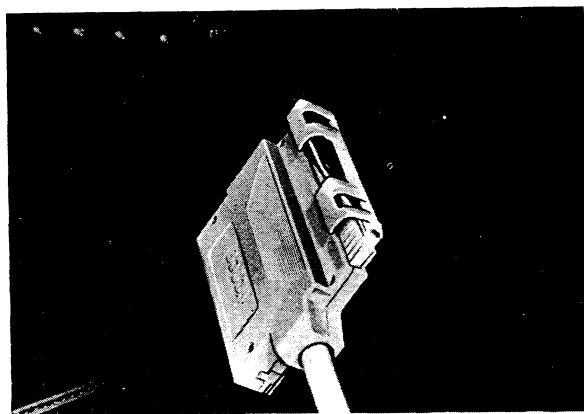

Fig. 2-83. Test instrument connected to cable harness
2. Remove the control unit (see page 2-43). Connect the cable from test instrument to the cable harness in the vehicle, see Fig. 2-83.